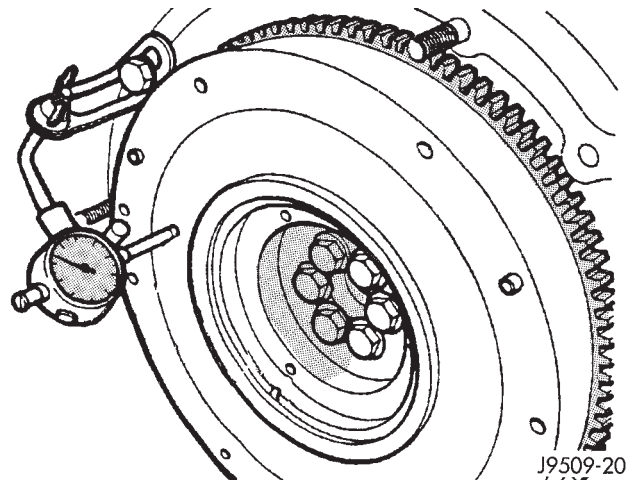

Fig. 59 Measuring Crankshaft End Play
(16) Install 2 flywheel bolts, 180° apart, and tighten bolts to 20 N·m plus 60° (15 ft. lbs.) plus 60°.
(17) Attach dial indicator to engine block.
(18) Move crankshaft toward front of engine and zero indicator.
(19) Move crankshaft toward the rear of engine and record measurement.
(20) Subtract specified crankshaft end play from figure obtained. Crankshaft end play .153 to .304mm (.0060 to .0119 in.).
(21) Select thrust washers which will give correct end play.
(22) Remove tools and flywheel.
(23) Lubricate thrust washer halves and fit them into the rear main bearing carrier.
(24) Ensure that crankshaft end and flywheel mating surfaces are clean and dry. Install "O" ring in flywheel groove.
(25) To verify correct end play, install 2 flywheel bolts 180° apart, and tighten bolts to 20 N·m plus 60° (15 ft. lbs. plus 60°).
(26) Measure crankshaft end play with a dial gauge. Crankshaft end play should not exceed .153 to .304mm (.0060 to .0119 in.) (Fig. 59).
(27) Mount flywheel on crankshaft. Lightly oil and install NEW bolts, tightening to 20 N·m in diametrically opposite pairs. Check that all bolts are at 20 N·m. Tighten each bolt a further 60° +0-5°, tightening bolts in diametral pairs. Check that all bolts are tightened to 130 N·m.